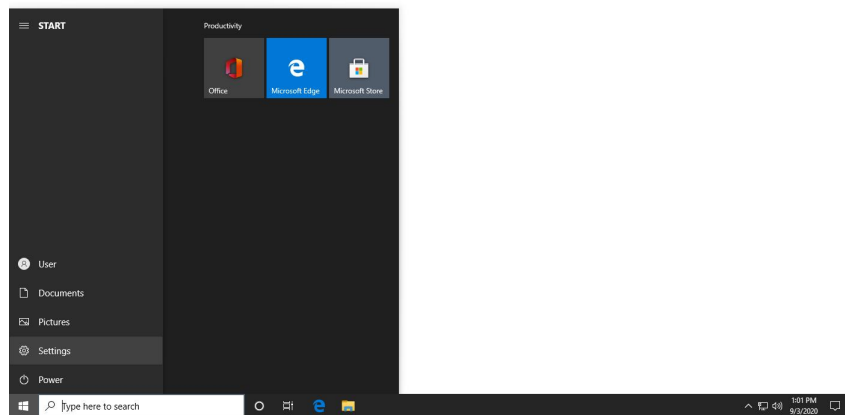

Figure 18: *Opening windows settings*
1. To remove the Avid® Reader Tools, go into the Windows Settings menu by selecting the gear icon in the Windows® menu shown in Figure 18.